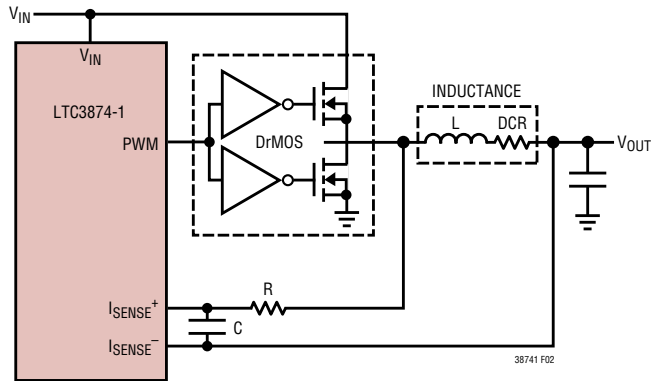

Figure 2 Inductor DCR Current Sensing
ISENSE+ and ISENSE- are the inputs to the current comparators. When the LOWDCR pin is high, their common mode input voltage range is 0V to 3.5V. ISENSE- should be connected directly to VOUT of the master controller. ISENSE+ is connected to an R • C filter with time constant one-fifth of L/DCR of the output inductor. Care must be taken not to float these pins during normal operation. Filter components, especially capacitors, must be placed close to the LTC3874-1, and the sense lines should run close together to a Kelvin connection underneath the current sense element. The LTC3874-1 is designed to be used with a sub-milliohm DCR value; without proper care, parasitic resistance, capacitance and inductance will degrade the current sense signal integrity, making the programmed current limit unpredictable. In Figure 2, resistor R must be placed close to the output inductor and capacitor C close to the IC pins to prevent noise coupling to the sense signal.
The LTC3874-1 is specifically designed for high load current applications requiring the highest possible efficiency; it is capable of sensing the signal of an inductor DCR in the sub-milliohm range (Figure 2). The DCR is the DC winding resistance of the inductor's copper, which is often less than 1mΩ for high current inductors. In high current and low output voltage applications, conduction loss of a high DCR or a sense resistor will cause a significant reduction in power efficiency. For a specific output requirement, choose the inductor with the DCR that satisfies the maximum desirable sense voltage, and use the relationship of the sense pin filters to output inductor characteristics as depicted below.
4. Keep the switching nodes (SW1, SW0), away from sensitive small-signal nodes, especially from the opposite channel's current sensing feedback pins. All of these nodes have very large and fast moving signals and therefore should be kept on the output side of the LTC3874-1 and occupy minimum PC trace area. If DCR sensing is used, place the resistor (Figure 2, "R") close to the switching node.